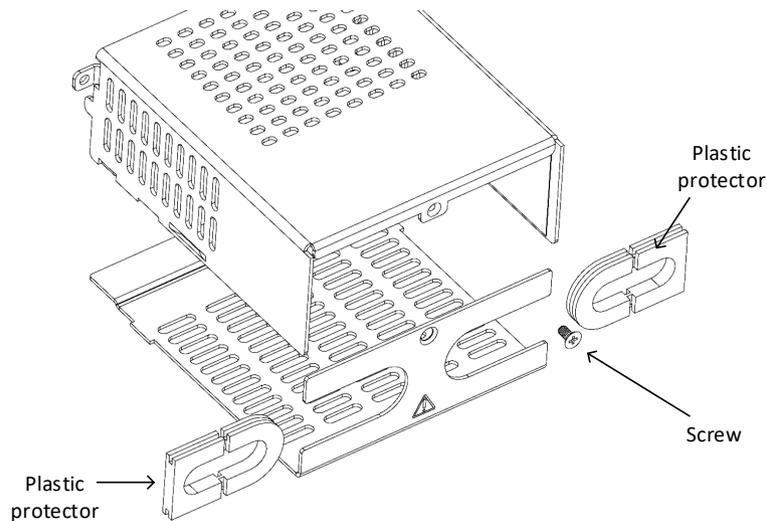

Figure 4-42: Disassembly of Output Protection
3. Open the output protection assembly (supplied in the accessories kit) by unscrewing the screw in the rear side as shown in Figure 4-42. Remove both plastic protectors.